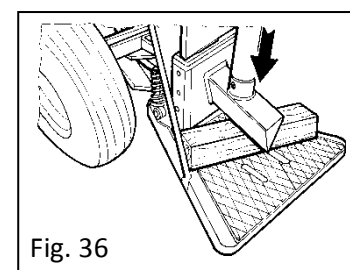

Fig. 36
Lower the cutter to stroke end on the piece positioned crosswise between the blade and the base of the frame and put a slight pressure in the hydraulic system. (Fig. 36)
- Before any movement, position the cutter at the low end-of-stroke position (see fig. 36).